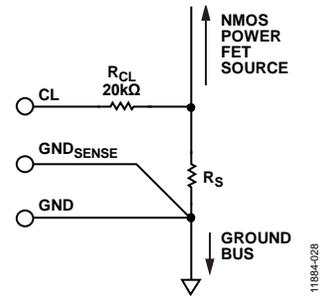

Figure 24. Recommended  $R_S$  Kelvin Ground Connection
- Use a Kelvin connection shown in Figure 24 and Figure 25 from the following: